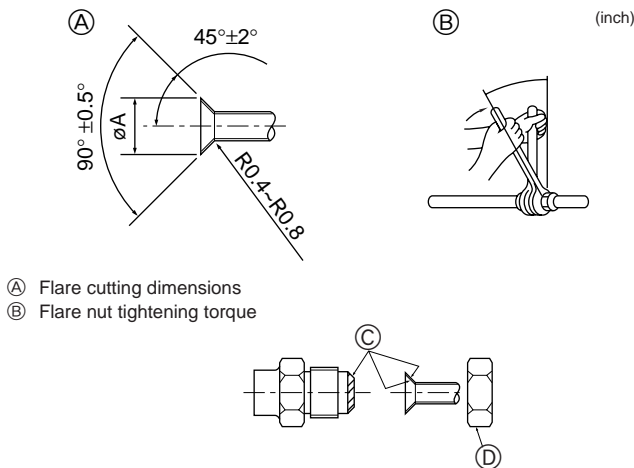

Fig. 4-2
(A) (Fig. 4-2) (mm [inch])
(B) (Fig. 4-2)
4.2. Connecting pipes (Fig. 4-2)